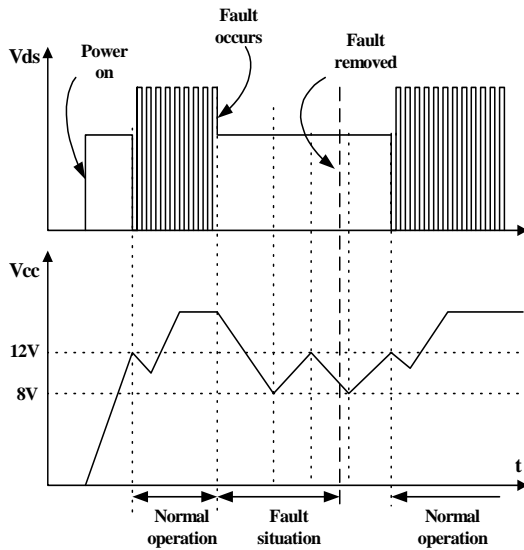

Figure 7. Auto restart operation
3. Protection Circuit : The FSCM0565R has several self protective functions such as over load protection (OLP), over voltage protection (OVP) and thermal shutdown (TSD). Because these protection circuits are fully integrated into the IC without external components, the reliability can be improved without increasing cost. Once the fault condition occurs, switching is terminated and the Sense FET remains off. This causes Vcc to fall. When Vcc reaches the UVLO stop voltage of 8V, the current consumed by FSCM0565R reduces to the startup current (typically 25uA) and the current supplied from the DC link charges the external capacitor (C_a) that is connected to the Vcc pin. When Vcc reaches the start voltage of 12V, FSCM0565R resumes its normal operation. In this manner, the auto-restart can alternately enable and disable the switching of the power Sense FET until the fault condition is eliminated (see Figure 7).